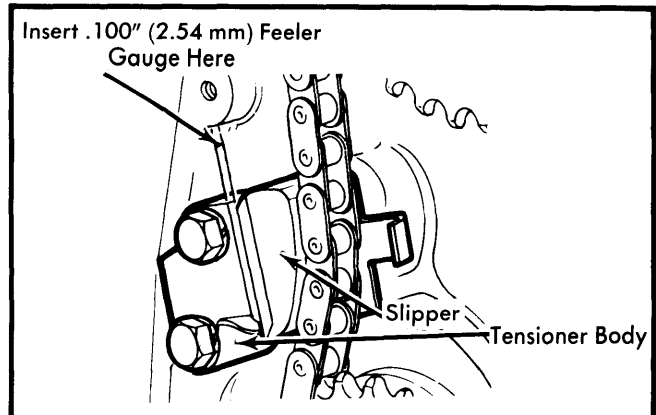

Fig. 2 Adjusting Timing Chain Tension
3) Set chain tension as follows: Insert a .100" (2.54 mm) feeler gauge between chain slipper and tensioner body. See Fig. 2. Loosen three chain guide retainer bolts and press down on timing chain guide between camshaft and intermediate shaft sprockets until feeler gauge is a sliding fit. Hold guide in this position and tighten adjustable guide bolt first, then two remaining bolts. Remove feeler gauge and continue reassembly.